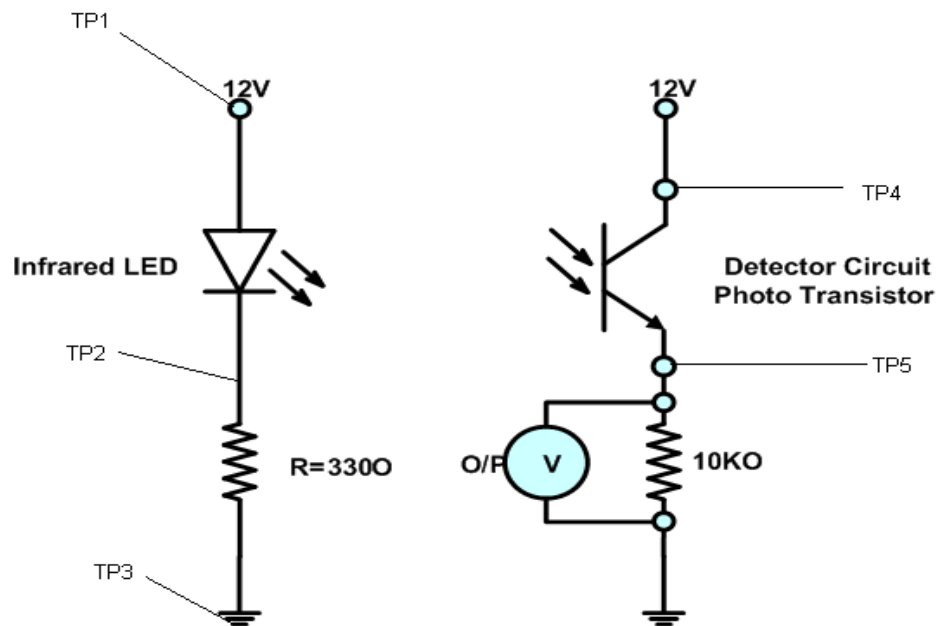

Figure 13.2
1. Assemble the circuit as shown in figure 13.2 in fully working condition.